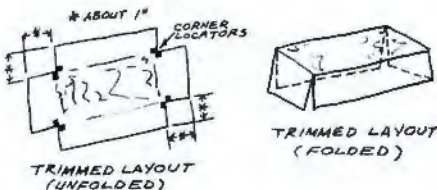

Fig. 4. Trim and fold final artwork as illustrated here.
**Making the PC Board.** Trim and fold your final layout as illustrated in Fig. 4. Then cut the pc blank to the exact size of the folded guide and remove any burrs from the cut edges with a file. Fold the guide over the pc blank with the copper side of the blank directly under the guide. Secure the loose tabs of the guide to the blank side of the pc blank with masking tape (Fig. 5).